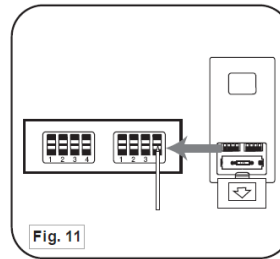

Fig. 11
**WARNING:** To avoid possible electrical shock, be sure electricity is turned off at the main fuse or breaker box before. **NOTE:** The Aire Control® System is equipped with a learning frequency function which has 256 code combinations to prevent potential interference from other remote units. The frequency on your Receiver and Transmitter units have been preset at the factory. (Fig. 11) No frequency change is necessary. Should you desire to install another fan within the same home or area with a separate frequency code, please see the "frequency interference" troubleshooting section of this instruction manual to learn how to change the frequency.